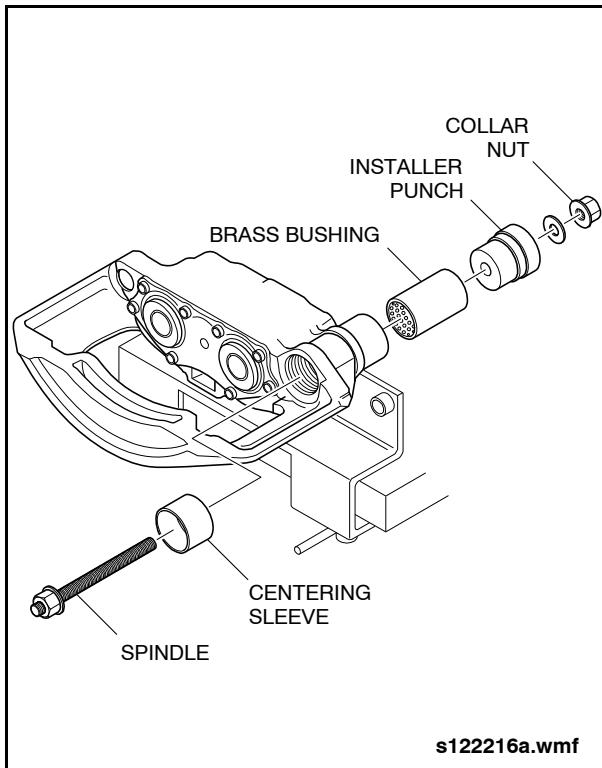

Fig. 1-61: Brass Bushing Installation
- a. Assemble and install the centering sleeve, brass bushing, installer punch, spindle, and collar nut (Items 76, 72, 70, & 71 from special tools list). Ensure that the open side of the centering sleeve is facing away from the caliper. **See "Fig. 1-61: Brass Bushing Installation" on page 68.**